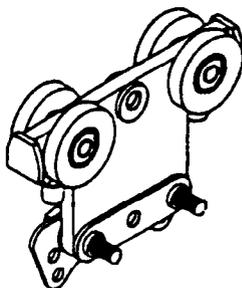

Figure 2
3. Slide Trolley Assembly onto the (2) screws and slide (1) spacer onto each screw. (Figure 2)